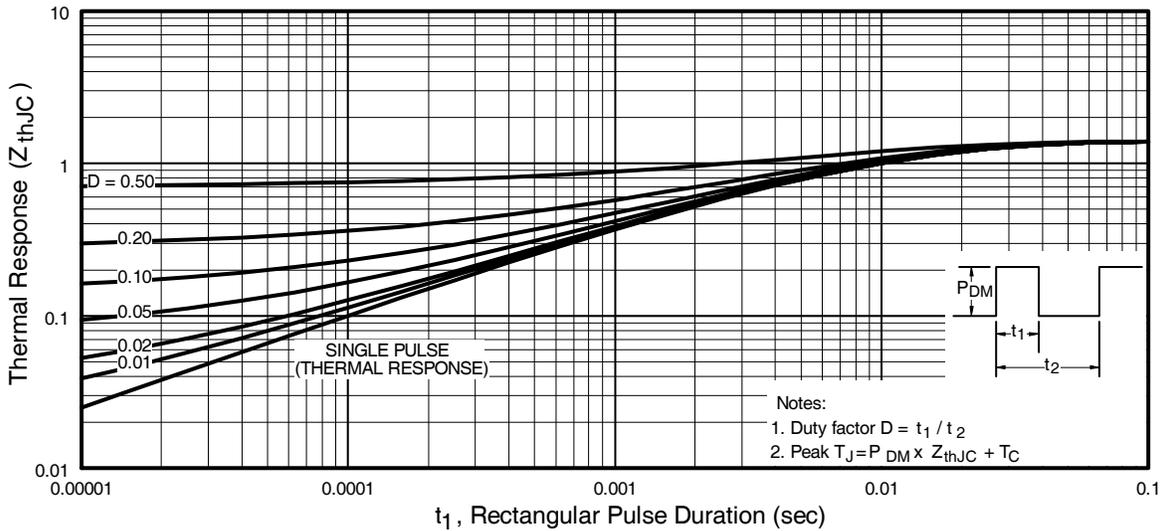

Fig 11. Maximum Effective Transient Thermal Impedance, Junction-to-Case
- ① Repetitive rating; pulse width limited by max. junction temperature. (See fig. 11)
- ② Starting $T_J = 25^\circ\text{C}, L = 0.48\text{mH}$